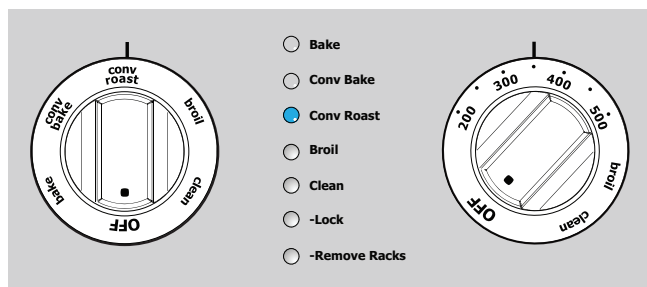

Figure 24: Convection roast selection
6. Close the door. Turn the function dial to **conv roast**. The Conv Roast indicator light will flash (Figure 24).